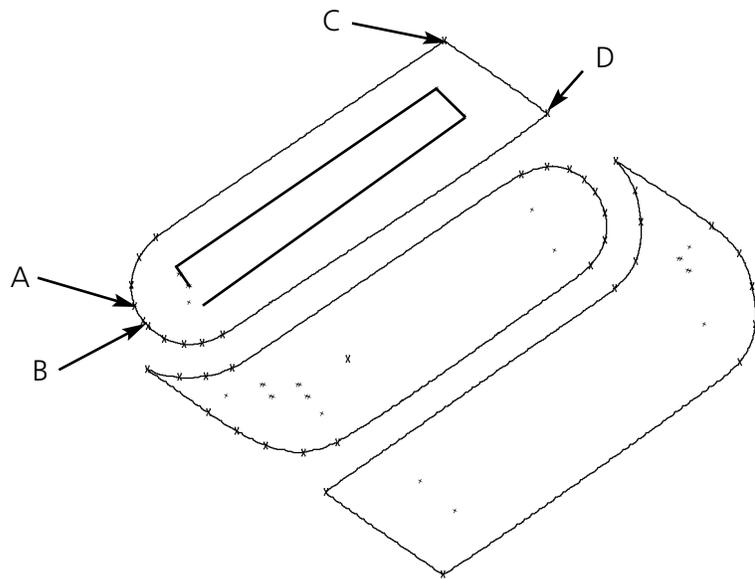

Figure 5-59
5. Go to the lower left area of the top section of the logo and enter a Mk1 at point A as shown in Figure 5-59. This first Mk1 (identifying the beginning of the first line of stitches in the fill) will be slightly offset from the exact mid-point of the arc in that shape.